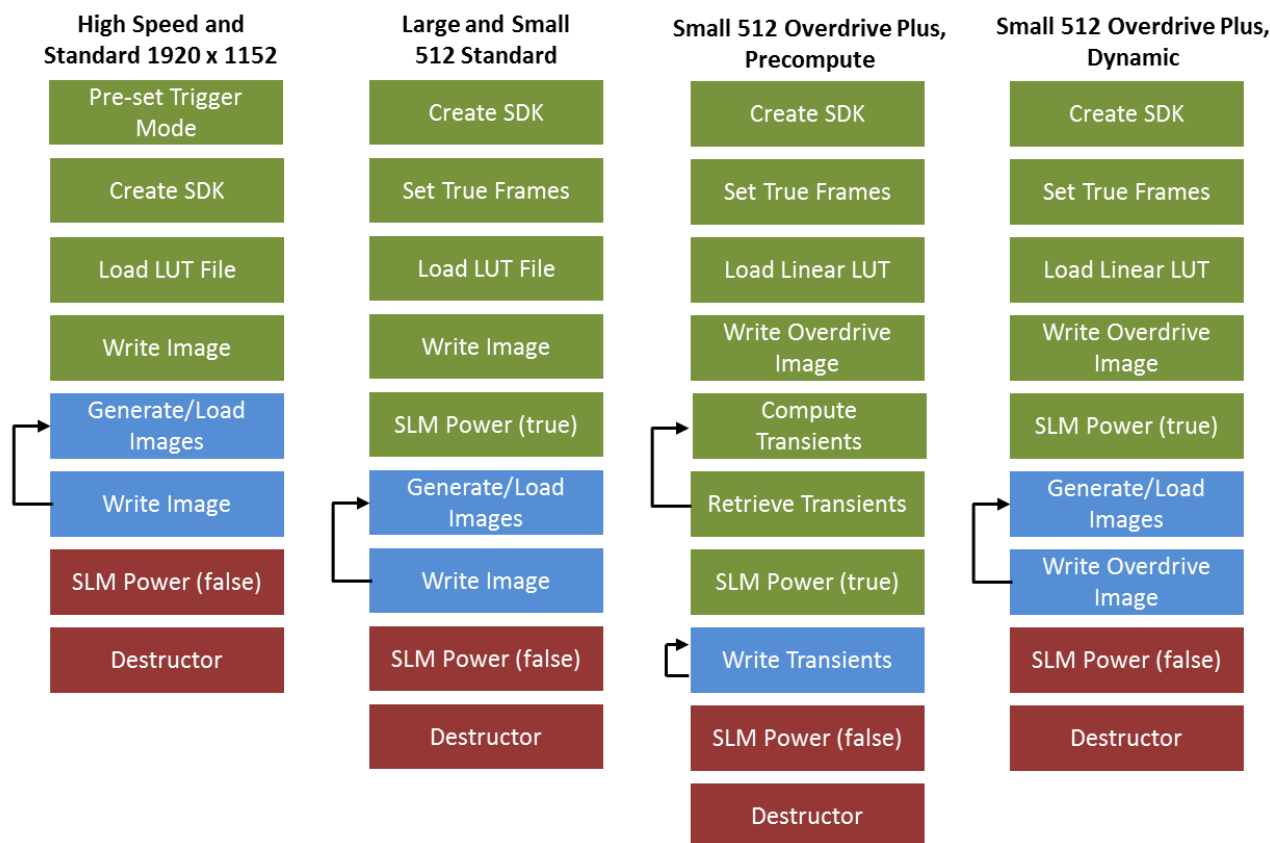

Figure 1: Function Call Order of Operations
For Matlab, LabVIEW, and C++ there are two examples demonstrating use of the SLM with and without ODP enabled. Figure 1 shows the order of function calls with green indicating initialization, blue indicating the customers loop of loading images to the SLM, and red indicating the proper shut down procedure. The function calls are further detailed in Function Summary and Usage.
- Max Transient Frames – This parameter is specific to ODP. Multiple concepts are built into ODP to improve the LC switching speed. One concept is referred to as the transient nematic effect. As shown in Fig. 1, if phase delay of a LC modulator is changed from φ_0 to φ_1 , then the LC molecules relax into the new phase following approximately an exponential curve. In order to take advantage of the transient nematic effect, one instead changes the phase from φ_0 to φ_{\max} to φ_1 . This causes the relaxation to follow a different exponential curve until the desired phase is reached, resulting in a significantly improved switching speed. When switching between images with pixels set to arbitrary phases, the duration of time that the pixels should be set to an intermediate phase is variable based on the initial and target phase. The transient frames allow the different pixels to be held at varying voltages for an appropriate amount of time. However, on most computers each transient frame takes approximately 490 μ s to load. There is a balance between